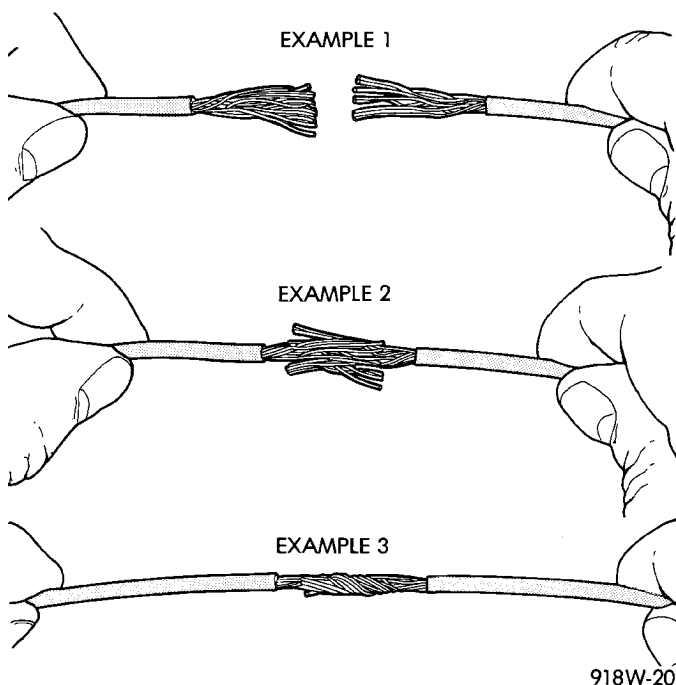

Fig. 9 Wire Repair
- (1) Disconnect battery negative cable.
- (2) Remove 1 inch of insulation from each end of the wire.
- (3) Place a piece of heat shrink tubing over one side of the wire. Make sure the tubing will be long enough to cover and seal the entire repair area.
- (4) Spread the strands of the wire apart on each part of the exposed wire (example 1) (Fig. 9).
- (5) Push the two ends of wire together until the strands of wire are close to the insulation (example 2) (Fig. 9).
- (6) Twist the wires together (example 3) (Fig. 9).
- (7) Solder the connection together using rosin core type solder only. **Do not use acid core solder.**
- (8) Center the heat shrink tubing over the joint, and heat using a heat gun. Heat the joint until the tubing is tightly sealed and sealant comes out of both ends of the tubing.
- (9) Secure the wire to the existing ones to prevent chafing or damage to the insulation.
- (10) Connect battery and test all affected systems.